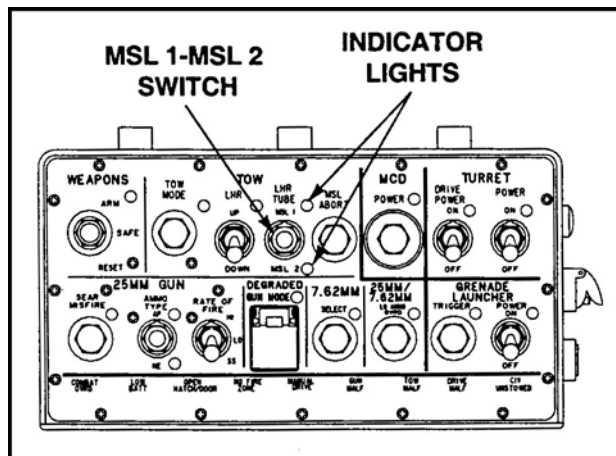

Figure 14. TOW missile select switch.
- (f) Observe the sight for the weapon selected symbology (HE).
- (2) Select the 25mm rate of fire.
- (3) Select 7.62mm coaxial machine gun.
- (4) Select TOW (Figure 14).